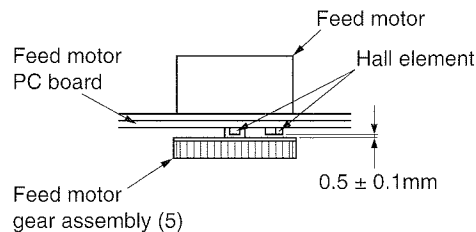

Fig. 2-24
- Push the feed motor gear assembly (5) to fit it in position. (Refer to Fig. 2-24.)
- Fit the feed motor gear assembly (5) at the height where the clearance is 0.5 ± 0.1 mm between the feed motor gear assembly and the hall element on the feed motor PC board.